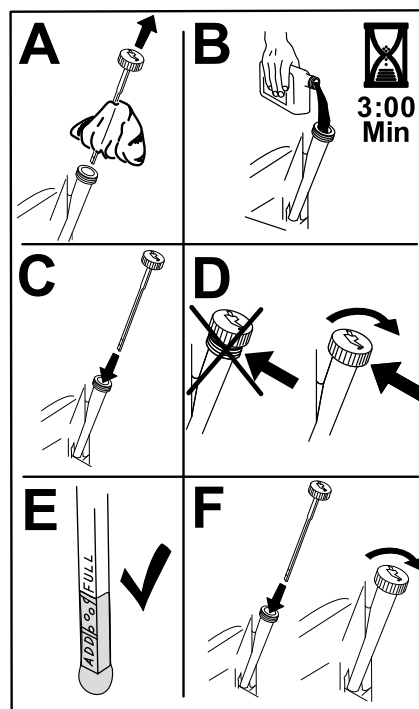

Figure 59
- Slowly pour approximately 80% of the specified oil into the filler tube and slowly add the additional oil to bring it to the Full mark (Figure 59).